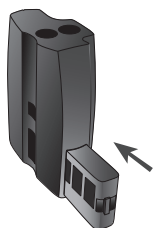

fig.1
1. Slide the Low Range Comparator Bar into the Low Range Comparator (fig.1).